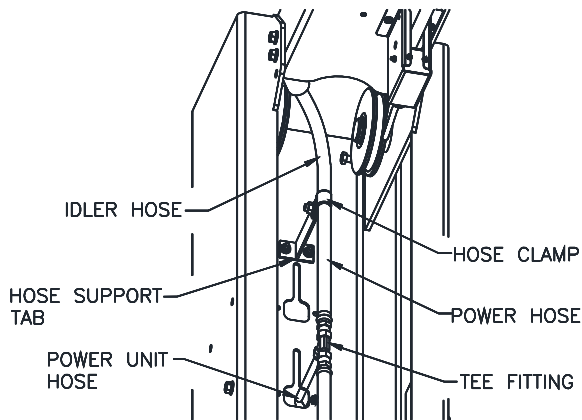

Fig. 16 – Power Side Hose Routing
- 41) Tighten the three hose fitting connections at the Tee taking care not to twist or change the lay of any hose. Install and tighten the "P" clamp on the power side to hold up the connection to the tee, see **Fig 16**.